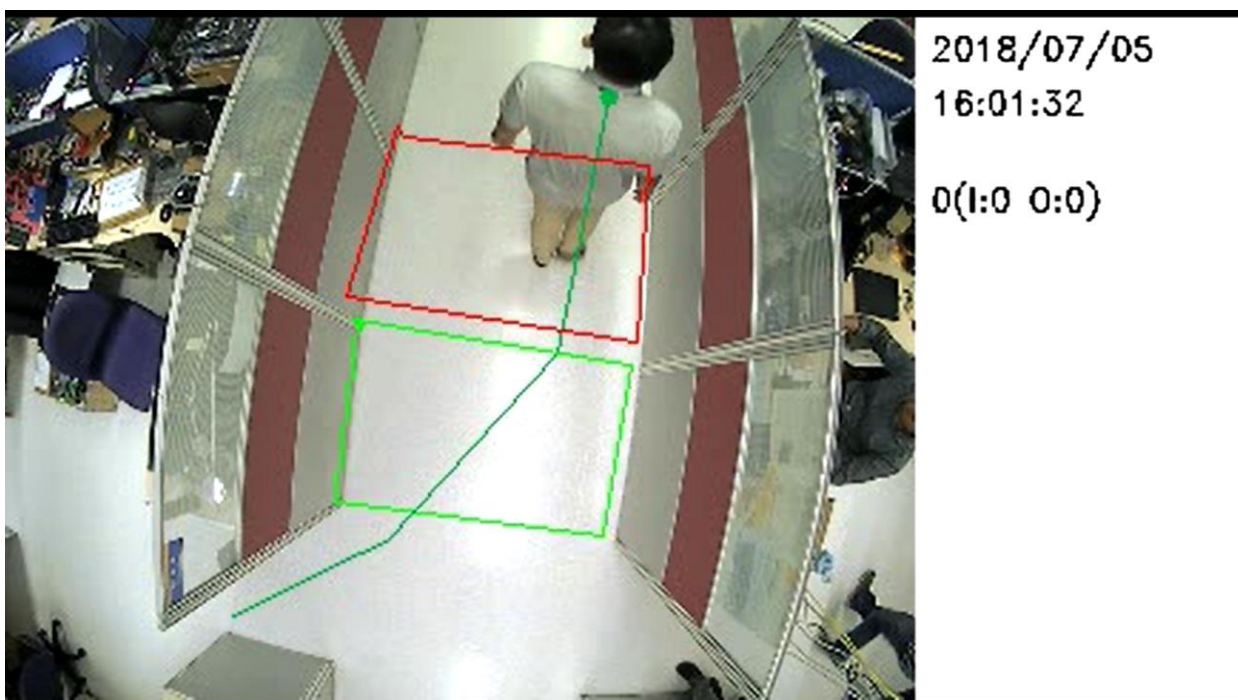

Figure-35
(4) The object leave the red area/enter area (Figure-35)